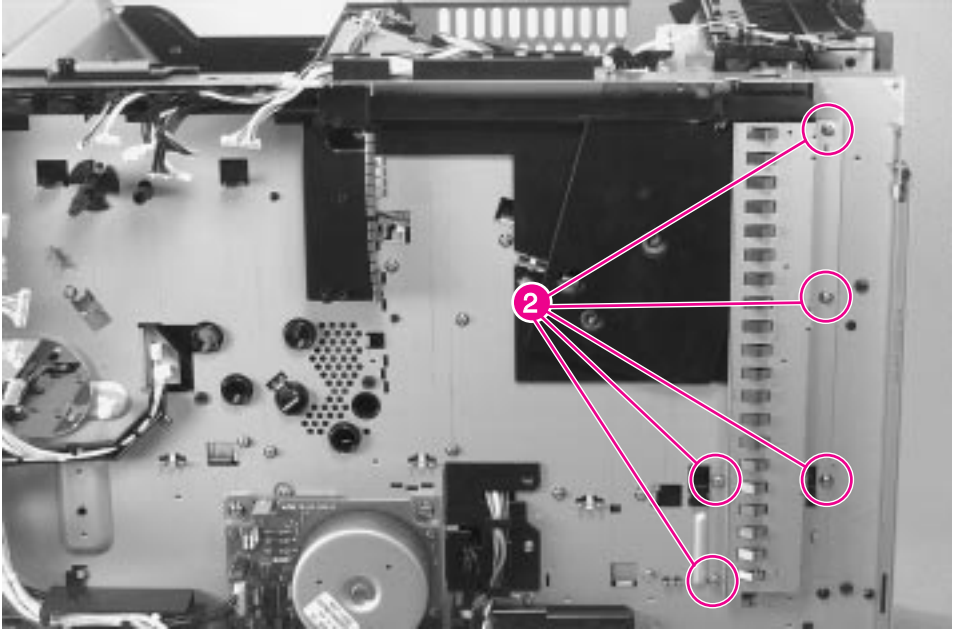

Figure 6-35 Output Paper Sensor PCA (2 of 4)
- 3 Remove 5 screws (figure 6-35, callout 2), and remove the Formatter PCA grounding strip.